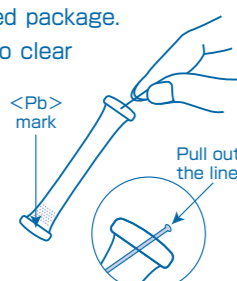

Fig.7
- Open the laminated package. Remove the line to clear the aperture from the top of the tube. (Fig.7)